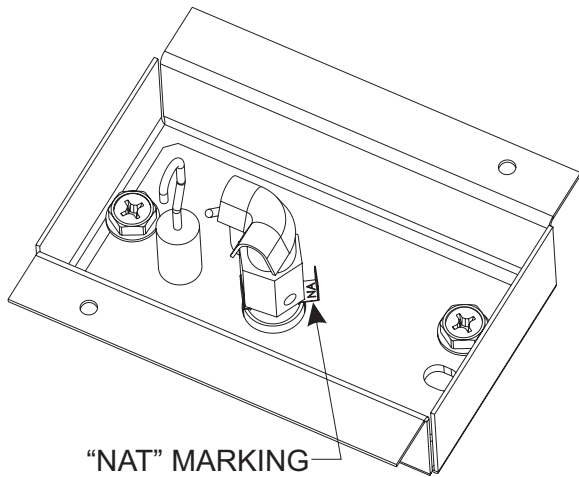

Figure 8
11. Use a 7/16 inch open wrench to loosen pilot body by slightly turning counter clockwise. Slide orifice bracket to other side and tighten pilot body clockwise. **See Figure 8.**